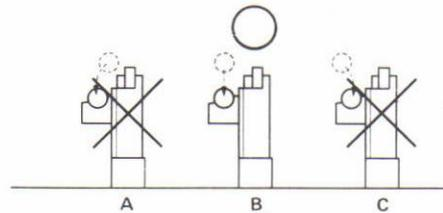

Fig. 4
2. Then press the stop button in order to return the tonearm to the arm rest. If the tonearm lowers into the arm rest cup as shown in A or C of Fig 4, adjust the arm rest lowering position with a Philip's screwdriver to obtain a lowering action like B in Fig. 4.